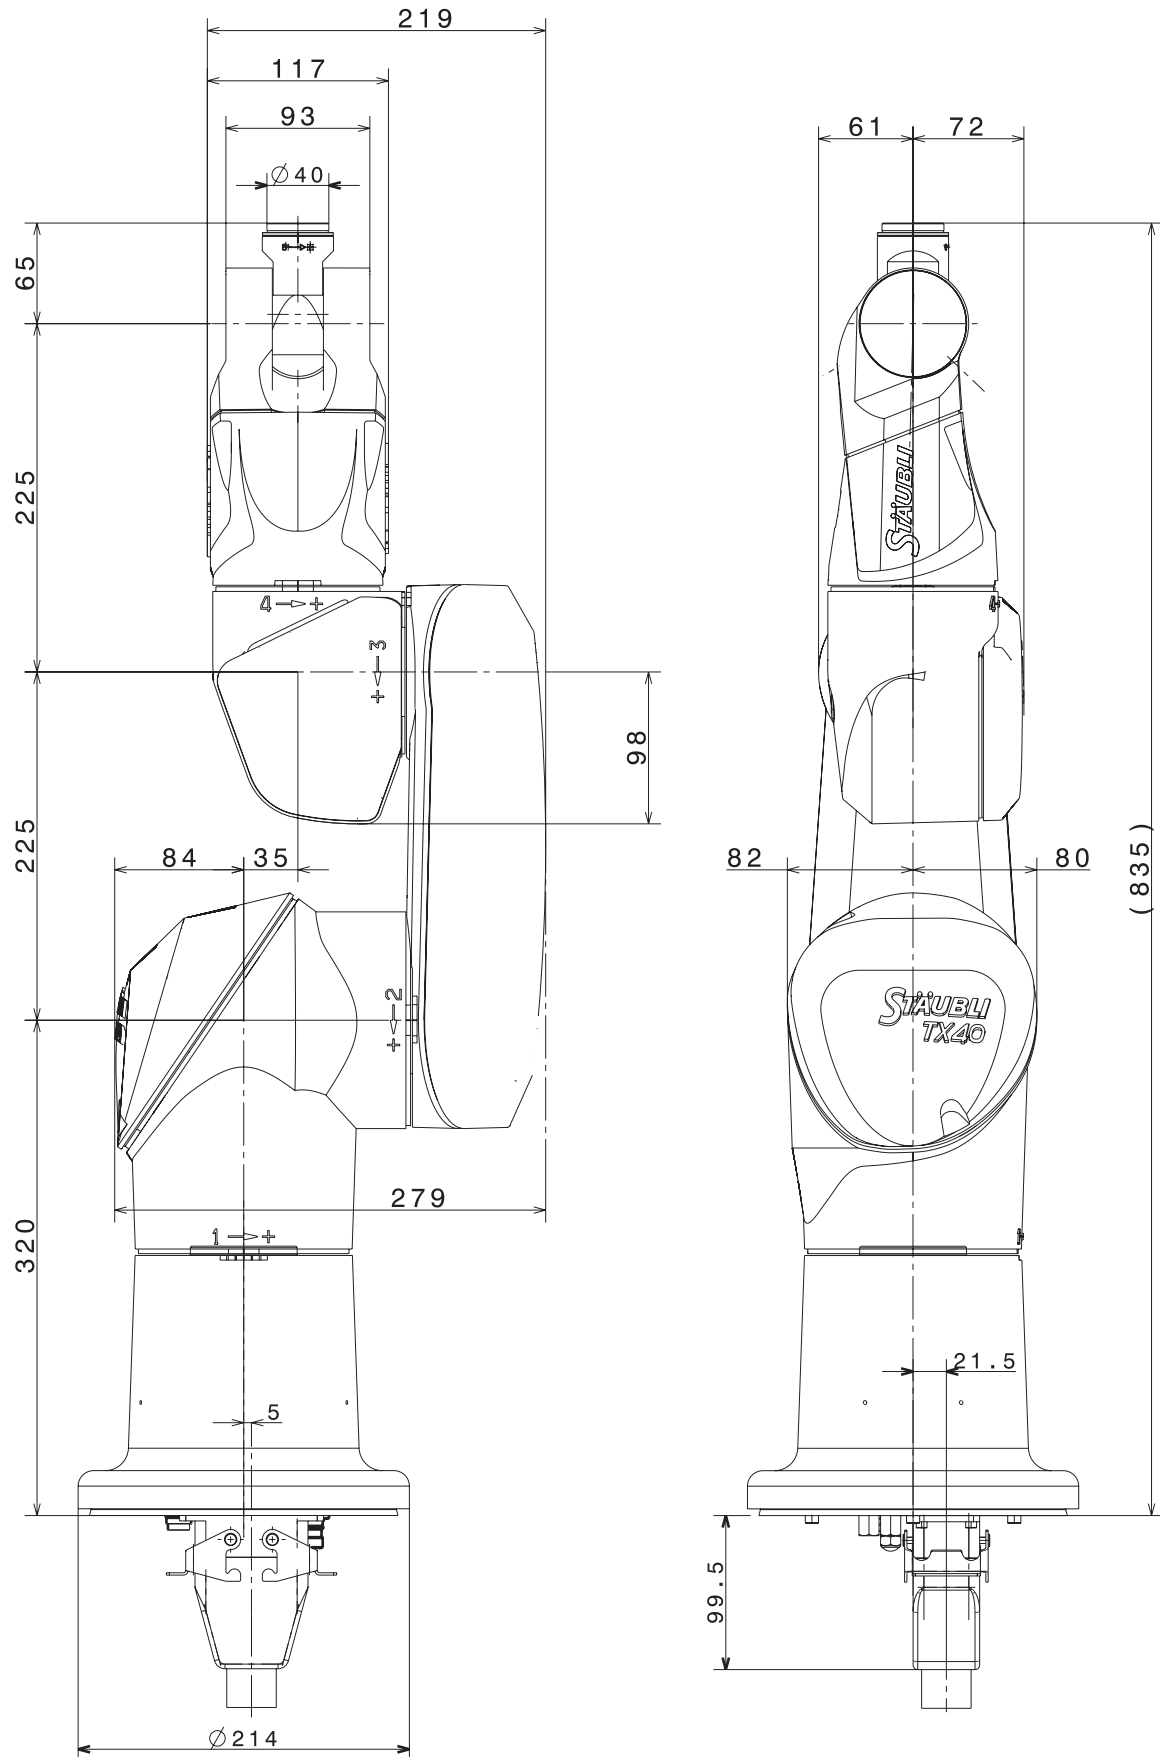

Figure 2.4
- Vertical cable outlet (**figure 2.4**).